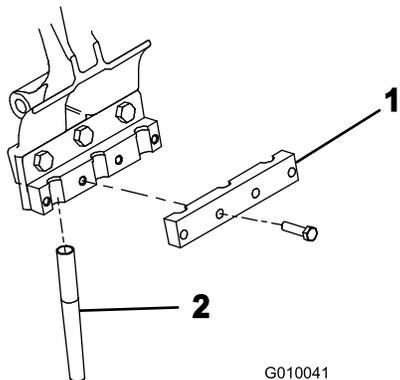

Figure 25
4. Loosely install a tine clamp to each tine holder with 4 bolts (3/8 x 1-1/2 inches) (Figure 25). Do not tighten the bolts.